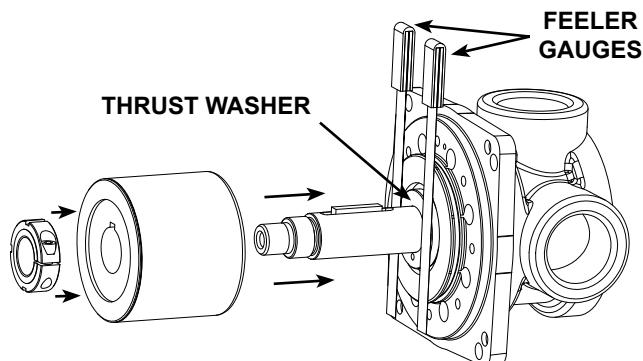

FIGURE 12
7. Place two feeler gauges (0.001"), one on each side, between the adaptor plate bushing and the inner magnet thrust washer. Refer to **Figure 12**. This will establish the proper clearance for the thrust washers. Tighten the locknut until the feeler gauges are snug, but can still be removed. Do not remove the feeler gauges at this time.